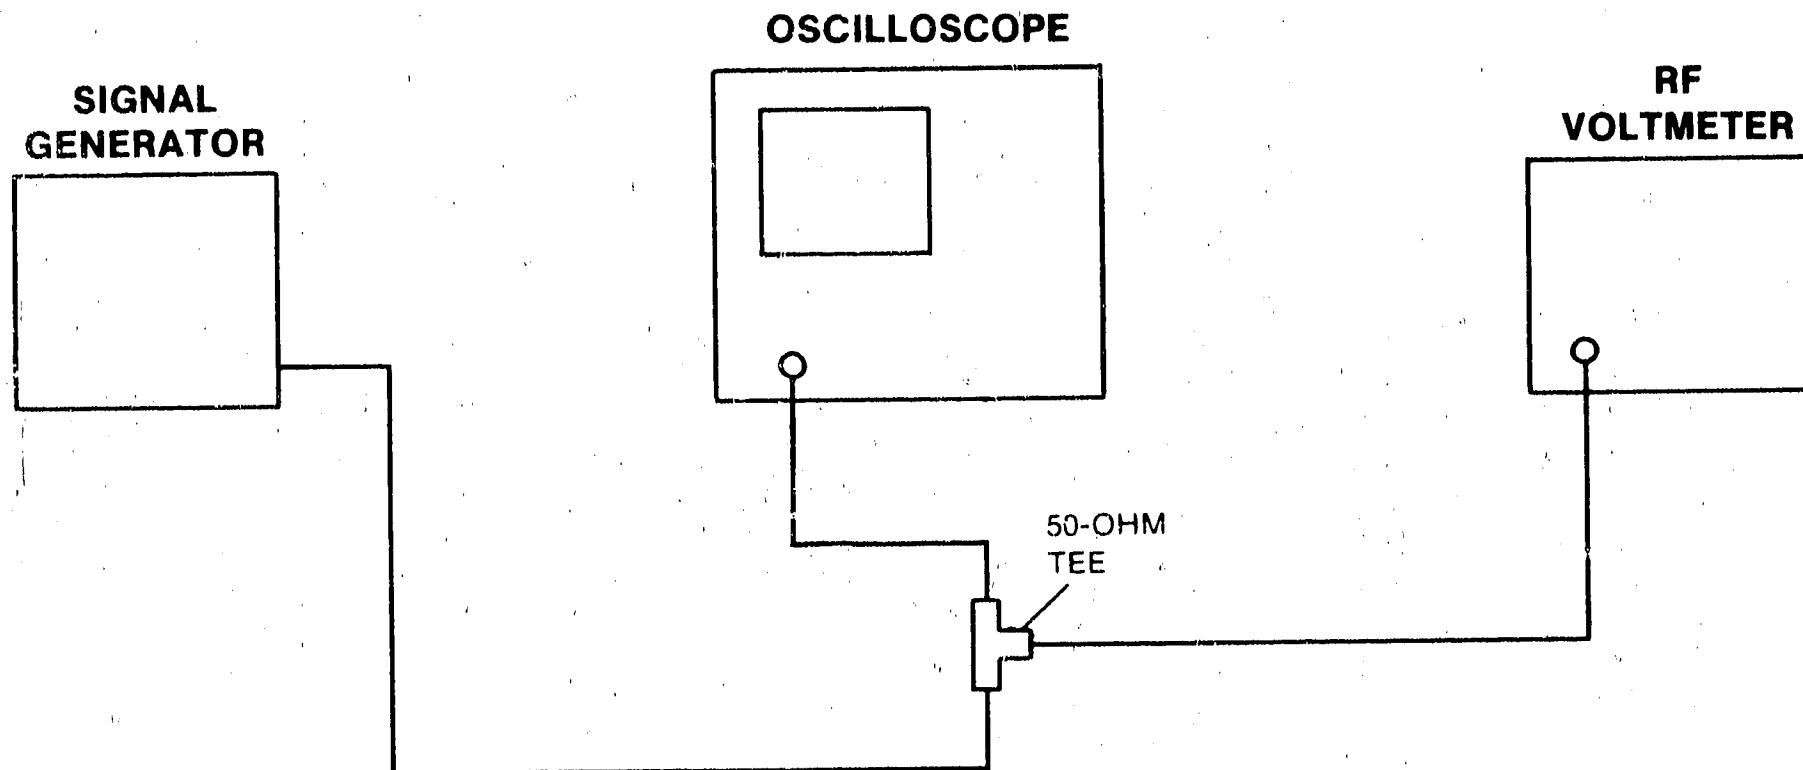

Figure 4-1. Bandwidth Test Setup
- a. Connect signal generator and rf voltmeter as shown in figure 4-1.